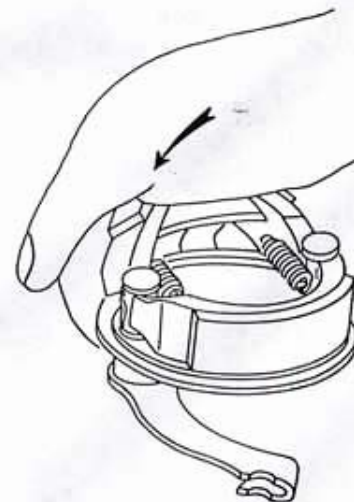

Fig. 2
- Force the shoes apart holding them in a "V" formation (fig. 2).